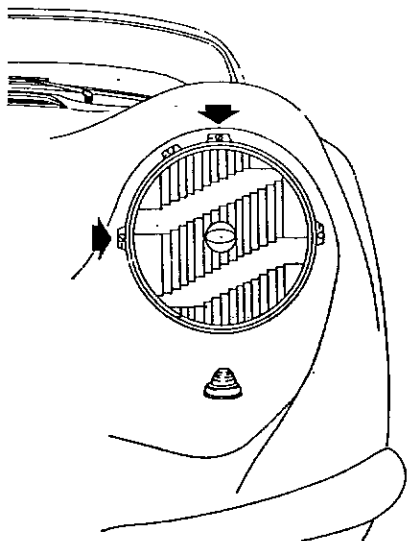

Fig. 51. Headlamp Adjustment
5. Adjust the headlamps using the two adjusting screws as shown on fig. 51.